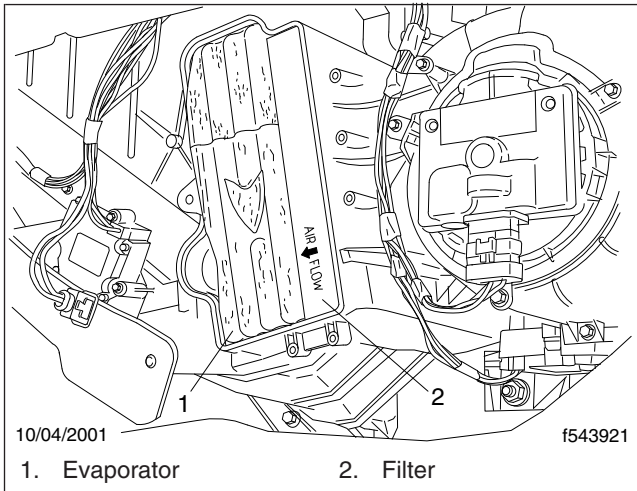

Fig. 1, HVAC Assembly Filter
6. Install a new filter in the HVAC assembly. Be sure that the arrow on the filter is pointing toward the evaporator. See **Fig. 1**.